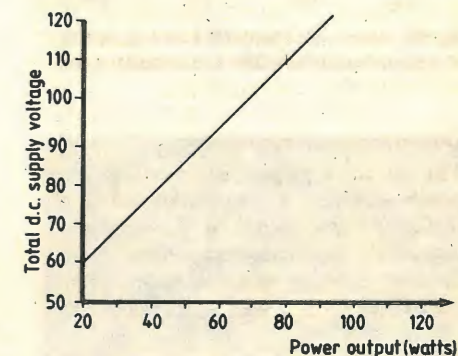

Fig. 15. Amplifier output power as function of supply voltage.
r.m.s power output could be related to the available supply voltage in the manner shown in Fig. 15, over the range 25-100 watts. Since it had been decided, for various reasons, to use a symmetrical positive and negative supply, 63V electrolytic capacitors on each half would allow a safe working voltage, overall, of 120 volts, equivalent to a $\pm 60V$ supply. In practice, the limited regulation of a simple rectifier-capacitor power supply is likely to reduce this, on load, to some $\pm 55V$, giving an overall power output of 80 watts.